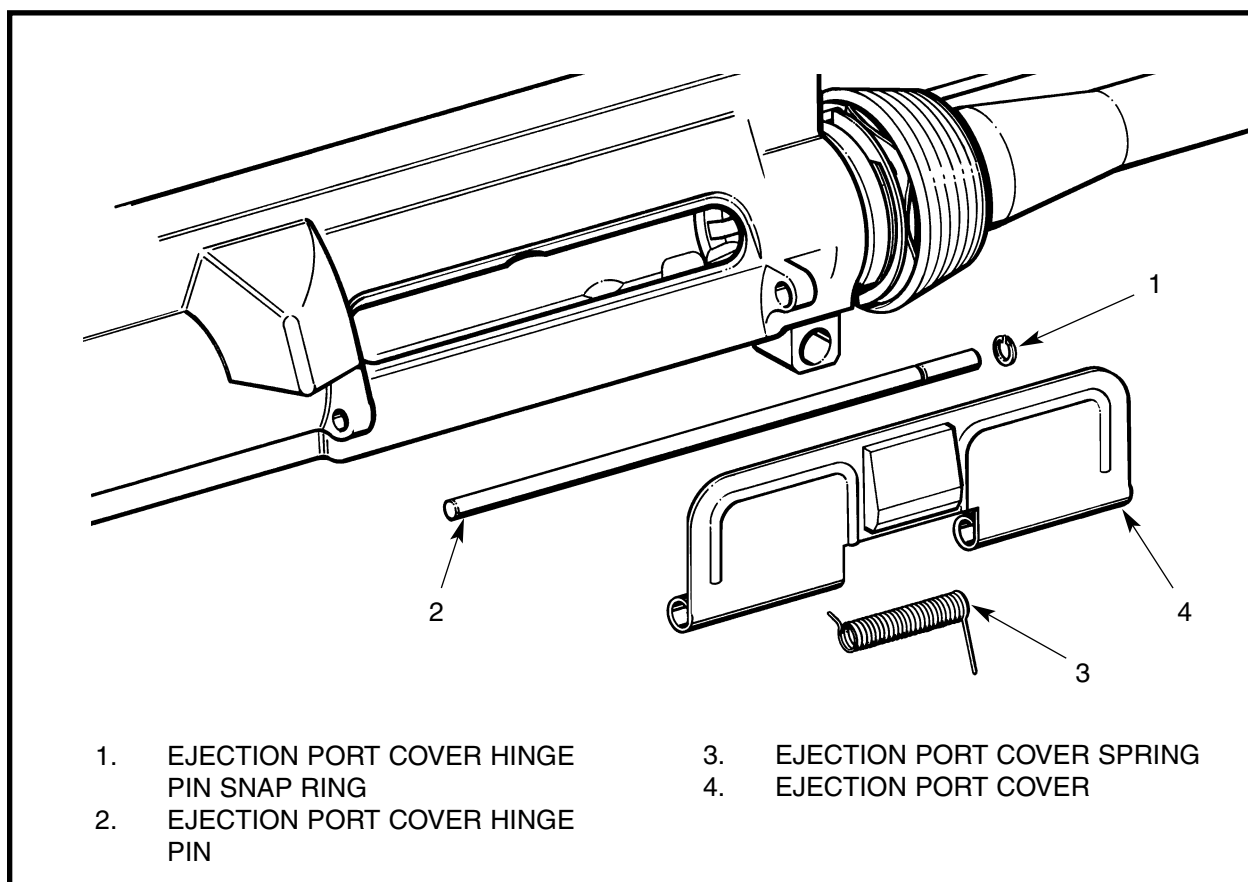

Figure 3-2-26 Removing the Ejection Port Cover
22. **Disassembly.** To disassemble the ejection port cover from the upper receiver, see Figure 3-2-26 and proceed as follows:
- a. Using the tips of two small punches or flat tip screwdrivers remove the ejection port cover hinge pin snap ring (1) from the ejection port cover hinge pin (2);
- b. Take control of the ejection port cover (4) and ejection port cover spring (3) to prevent their loss;